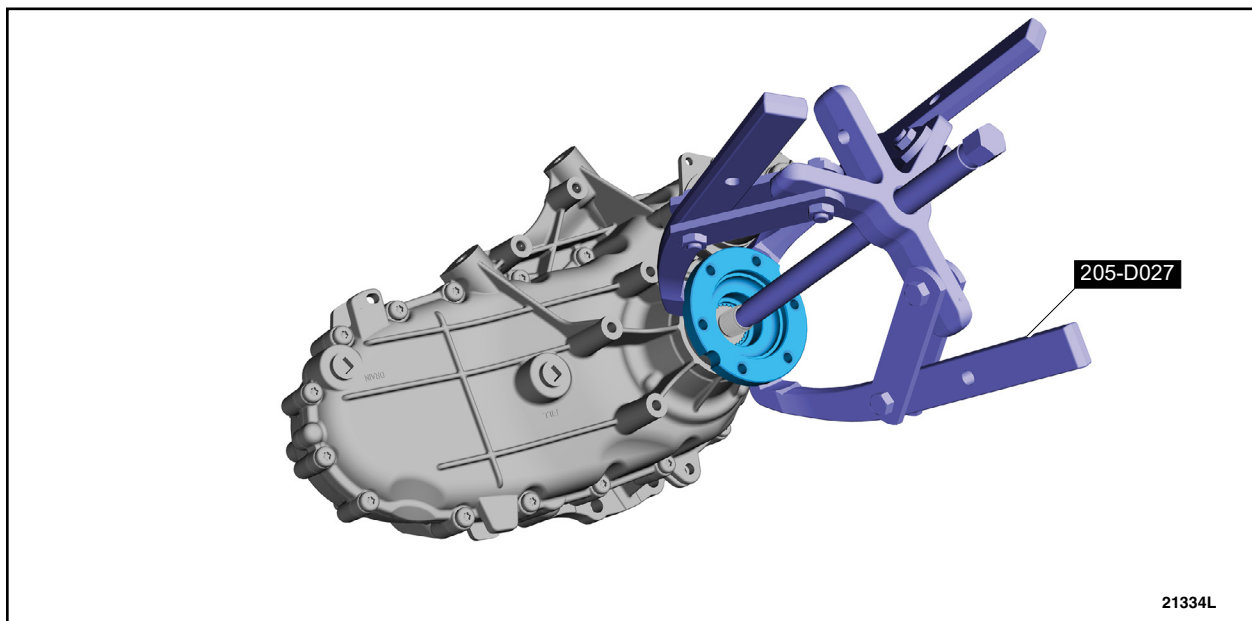

FIGURE 11
22. Using Special Service Tool (2 or 3 Jaw Puller), remove the outlet flange and set aside for warranty return. See Figure 11.